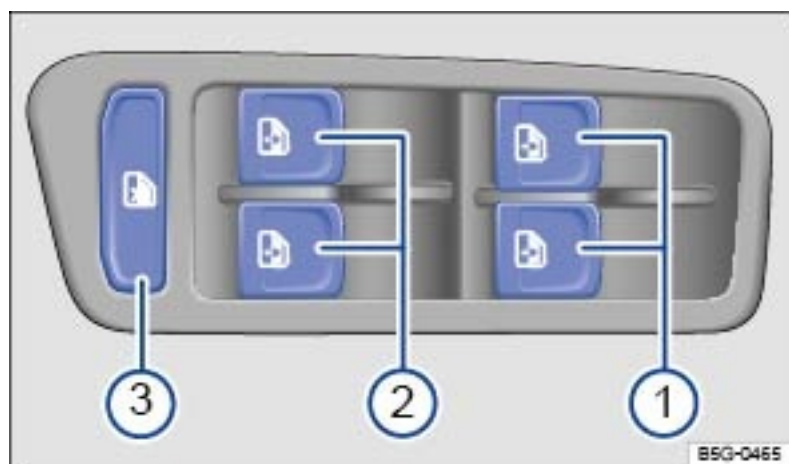

Fig. 35 In the driver door: Switches for the front and rear power windows (4-door version shown).
Key to → Fig. 35:
The safety switch → Fig. 35 ③ deactivates the power windows in the rear doors. The yellow indicator light in the switch lights up (4-door models only).